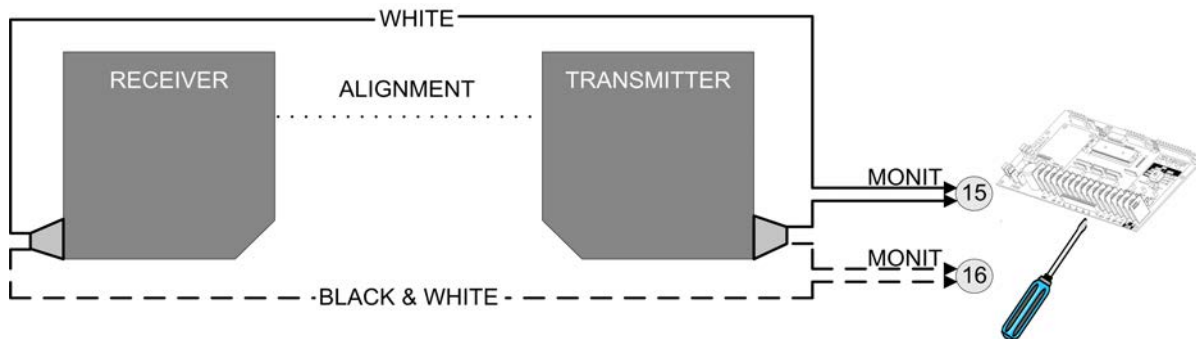

Figure 3 - Connection to the Electronic Control Circuit
4. Uncoil the wires from the units, route and connect them to **terminals 15 and 16** on the electronic control board (BOARD070M), as seen in Figure 3.